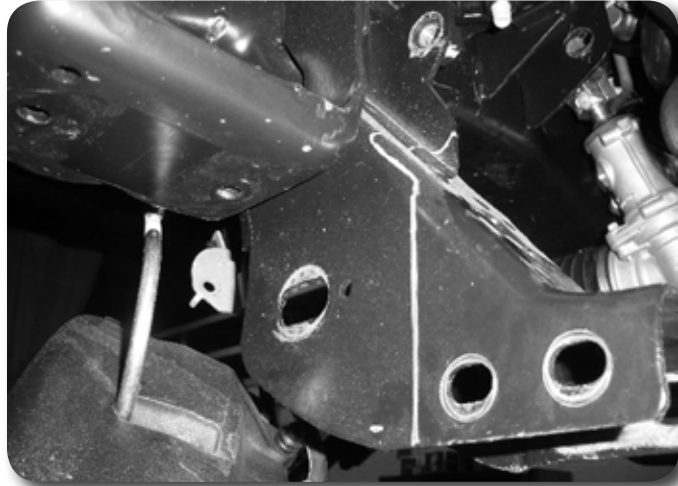

Figure 14
25. On the back side measure from the outside edge of the control arm slot 4-1/2" and mark Figure 14. Make a vertical cut line at the mark.